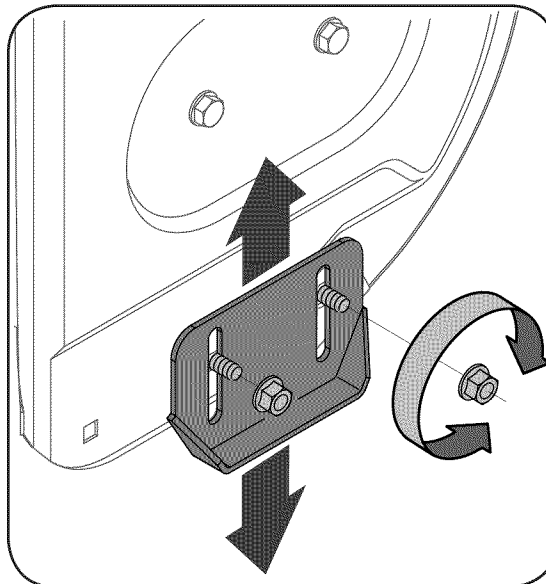

Figure 16
5. Loosen the lower hex nut on the drive cable bracket. See Figure 16.
1. Adjust skid shoes by loosening the four lock nuts and carriage bolts and moving skid shoes to desired position. See Figure 16.